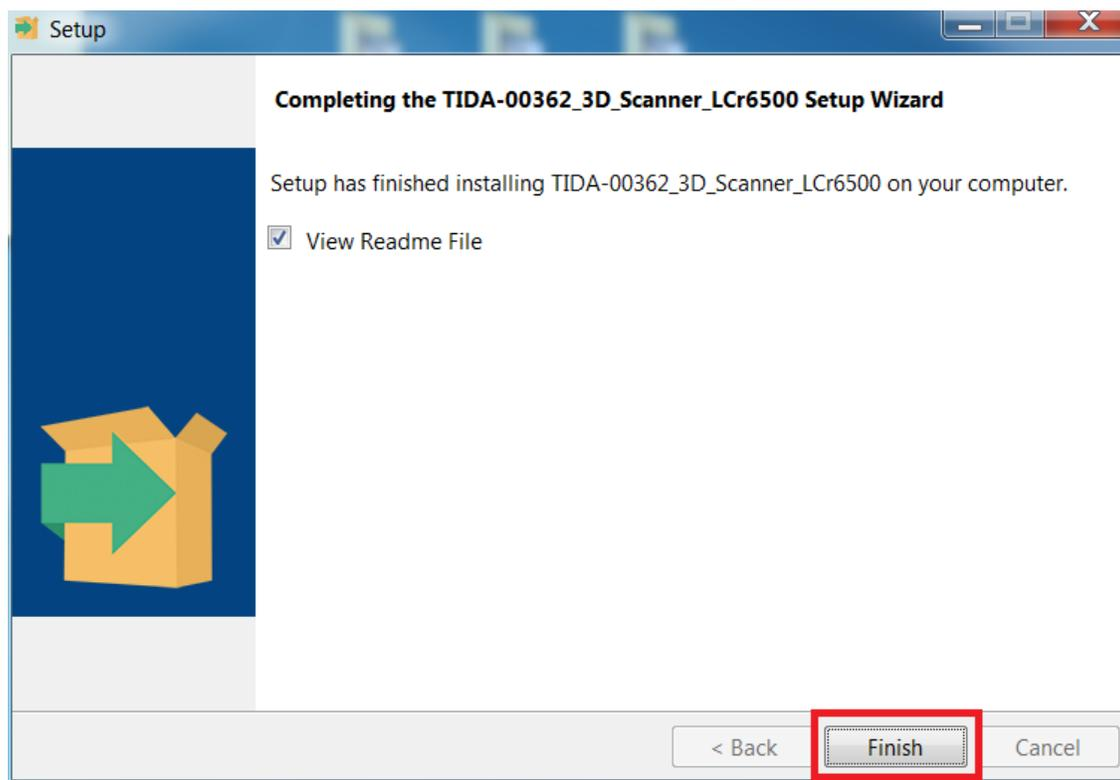

Figure 2-25. 3D Scanner Reference Design Installation Completion
8. Once the files have been extracted and installed, click the "Finish" button to close the installer, as shown in Figure 2-25.